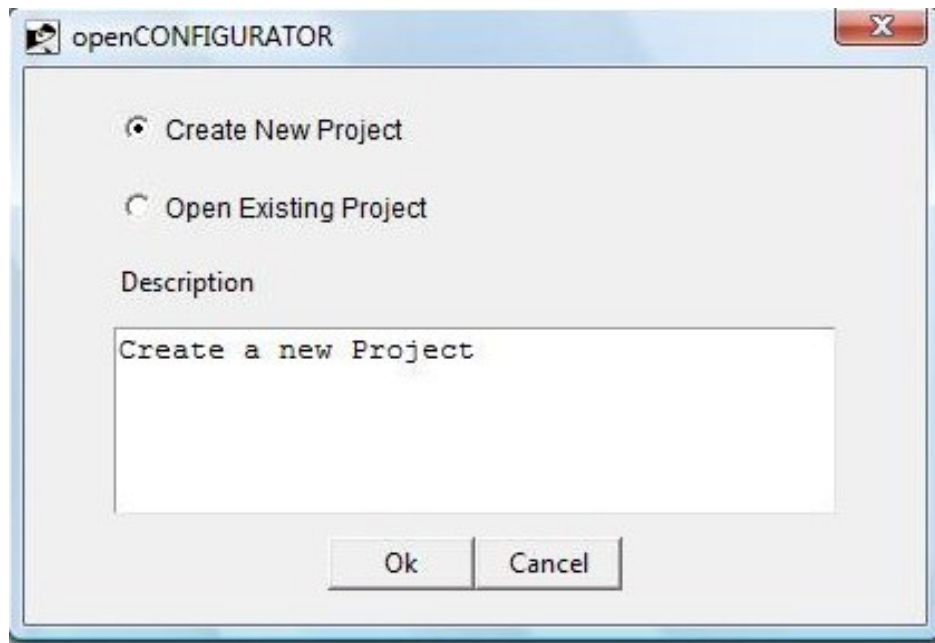

Figure 1
a) When a user launches an openConfigurator tool it will ask either to Create New Project or Open Existing Project as shown in Figure.1